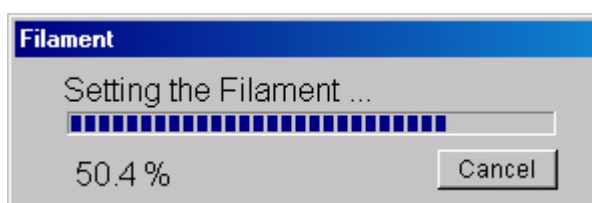
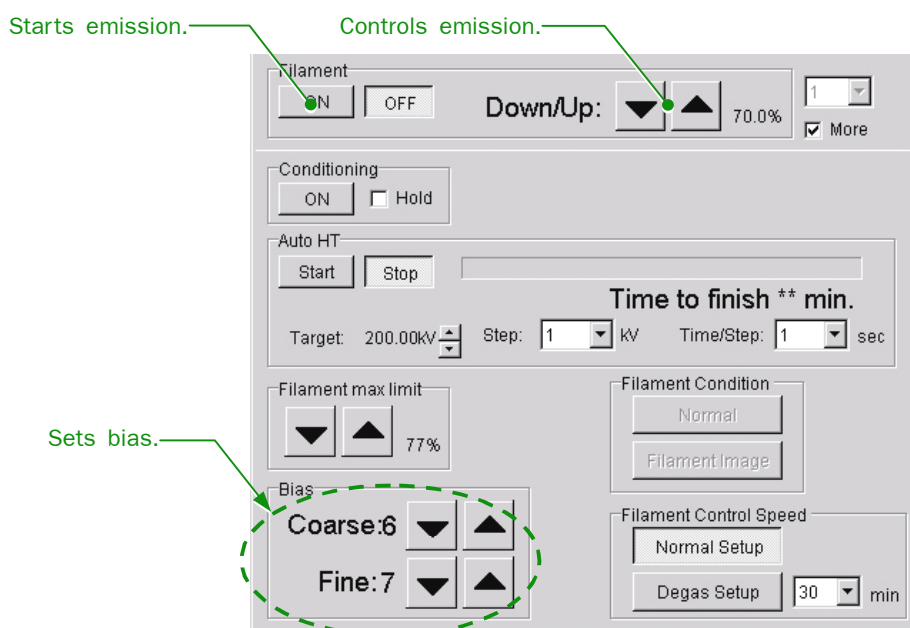

Fig. 5.14 Filament window
Fig. 5.15 Generating high voltage
- b. Click on Filament **ON** in the **High Voltage Control window** or press the Beam button (L1-①) on the control panel to generate the electron beam.
- ✍ While the electron beam is being generated, the **Filament** window opens. While the **Filament** window is open, you cannot access any other windows (☞ Fig. 5.14).
- a. Set the desired percentage to the set maximum beam emission using the Filament **Down/Up** buttons in the **High Voltage Control** window (☞ Fig. 5.15).
- ✗ The percentage to be selected cannot exceed the value that is preset in Filament max limit in the **High Voltage Control** window (☞ Fig. 5.15) at the time of shipment from the factory. Do not modify the value.
- b. Click on Filament **ON** in the **High Voltage Control** window or press the Beam button (L1-①) on the control panel to generate the electron beam.
- ✗ While the electron beam is being generated, the **Filament** window opens. While the **Filament** window is open, you cannot access any other windows (☞ Fig. 5.14).
- c. Set Beam Current in the **High Voltage Control** window to 10 μA using the Filament up and down triangle buttons and the Bias Coarse and Fine triangle buttons (☞ Fig. 5.15).
- a. Turn on TEM (L1-③).
- b. Set SPOT SIZE in the TEM Controller main window to SPOT 2 using the SPOT SIZE (L1-③) and α 3 using the α SELECTOR (L1-③).
6. Make sure that all the lens switches (L3-⑧) are on; then press MAG2 (r1-②). A specified magnification of 5000 $\times$ is obtained. If it is not, correct it by referring to Section 5.15.4.
7. Turn the BRIGHTNESS knob (L1-⑥) to see if the electron beam appears on the fluorescent screen. If you find the screen partly illuminated, proceed to the next step. If you don't, proceed to Step 10 below.
8. Adjust the SHIFT X and Y knobs (L1-⑧ and R1-③) and the BRIGHTNESS knob (L1-⑥) to the brightest beam spot condition.
9. When screen brightness increases and starts to get too bright, turn on PLA (R2-⑤) or click on DEF Select **PL** in the **Alignment Panel for Maintenance** window; adjust the SHIFT X and Y knobs (L1-⑧ and R1-③) and the BRIGHTNESS knob (L1-⑥) to the brightest beam spot condition again; then align the condenser lens optical axis, referring to Section 5.5.3.